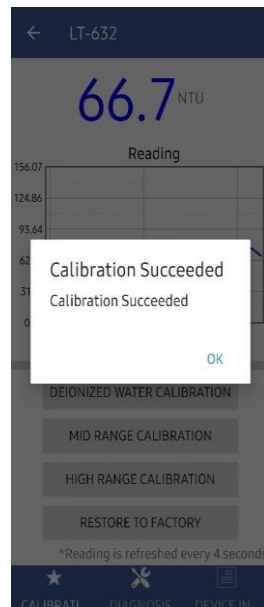
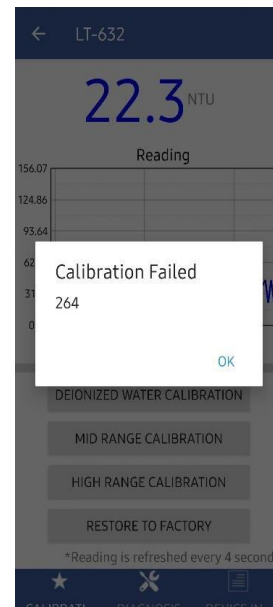

Figure 9
Figure 10
4. If the calibration is successful, the interface will return a message "Calibration Succeeded" as shown in Figure 9. If the calibration has failed, the interface will return a message "Calibration Failed", as shown in Figure 10 and the user must repeat the process until calibration success is achieved.